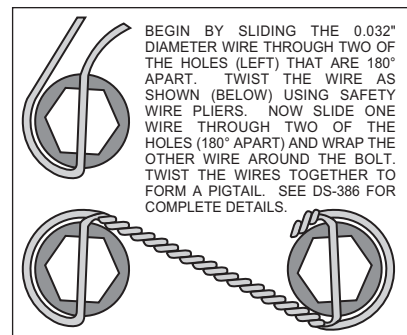

Figure 4. Safety Wire Diagram
- Slide the caliper mounting bracket kit assembly (1) onto the housing flange and then insert the axle assembly through the center hole of the caliper mounting bracket assembly (1) and secure using the stock Original Equipment Manufacturer (OEM) bolts and nuts. Stock OEM hex nuts that retain the caliper mounting bracket assembly (1) should be on the wheel side of the bracket. Apply red *Loctite*® 271 to the stock OEM bolt threads and torque to OEM specifications. Make sure the heads of the caliper mounting bracket assembly (1) insert nuts are FACING OUTWARD TOWARDS THE WHEEL.
- Align the correct hole pattern in the rotor (2) with the stud pattern on the axle flange. **NOTE:** Some OEM and after market axles come with stud sizes larger than 0.50" diameter. Verify stud size and have a qualified machine shop drill the hat section of the rotor to the correct size, if necessary. Slide the rotor (2) over the wheel studs covering the mounting bracket assembly (1) and against the axle flange face.
- NOTE:** Please reference the caution statement at the beginning of the assembly instructions. WITH THE BLEED SCREWS POINTING UP, mount the caliper (3) over the rotor (2) and onto the caliper mounting bracket (1) using lock washers (4) and mounting bolts (5). View the rotor through the top opening of the caliper. The rotor should be aligned in the center of the caliper. If not, adjust the caliper by using 0.032 inch shims (6) by placing them between the caliper mounting bracket (1) and the caliper (3). Apply red *Loctite*® 271 to the mounting bolt threads (5), torque to 30 ft-lb. Safety wire the caliper mounting bolts (5) using standard 0.032 inch diameter stainless steel safety wire as shown in Figure 4. Please refer to Wilwood's data sheet DS-386 (available at www.wilwood.com/pdf/ds386.pdf) for complete safety wire installation instructions.